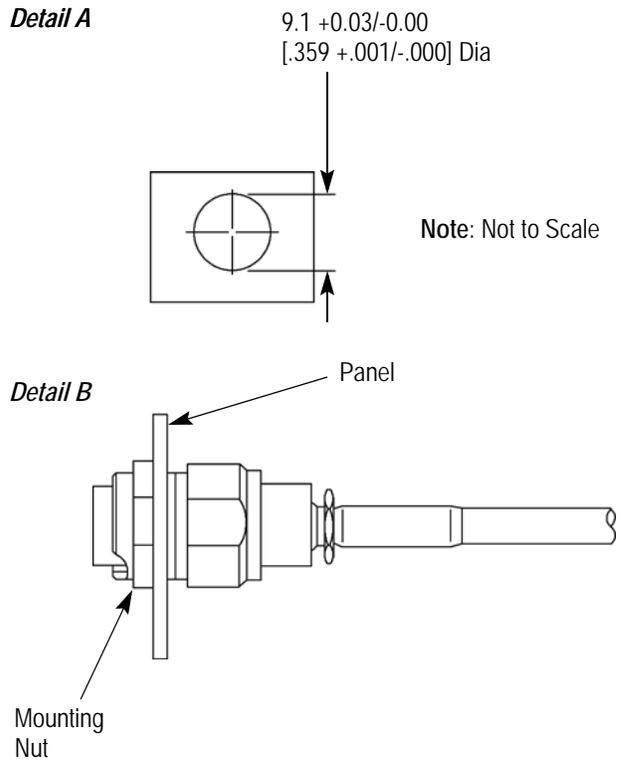

Figure 5
10. Cut a hole in the panel using the dimensions shown in Figure 5, Detail A. Mount the jack onto the panel. Install the mounting nut onto the front of the jack. Refer to Figure 5, Detail B.